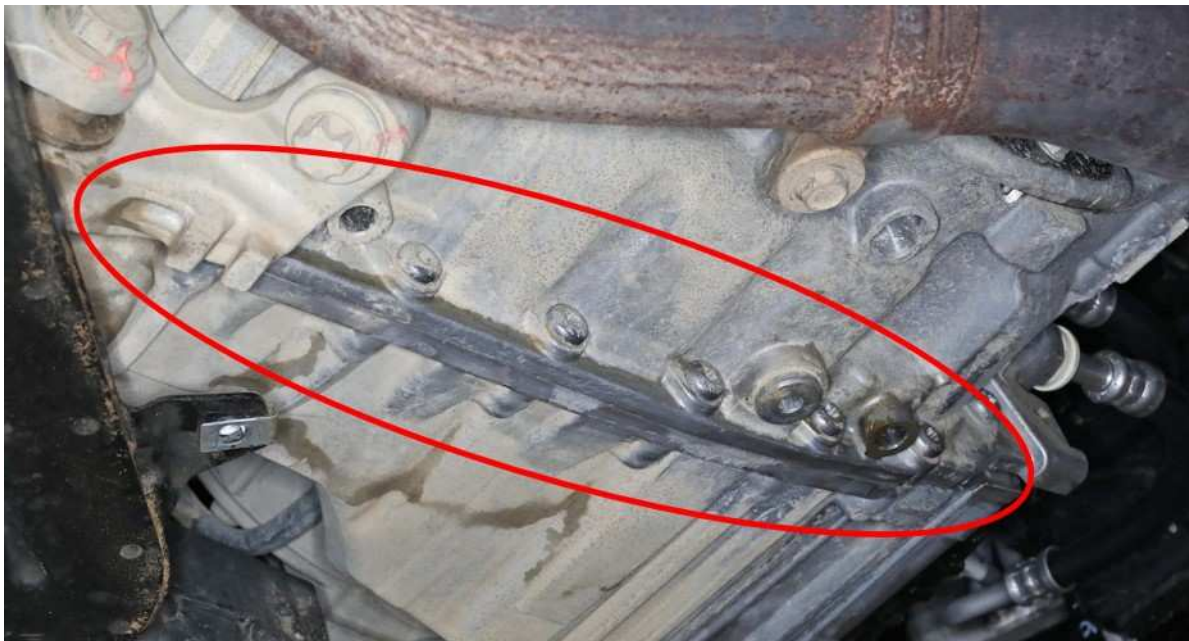

Fig. 2
10. Verify the leak is at the split in the transmission case (Fig. 2) .
11. Is the leak at the split in the transmission case location and not leaking from higher up or any other location (Fig. 2) ?
8. Verify the transmission fluid level and it is not leaking at the repair area (Fig. 2) , if a leak is still detected further diagnosis should be performed.